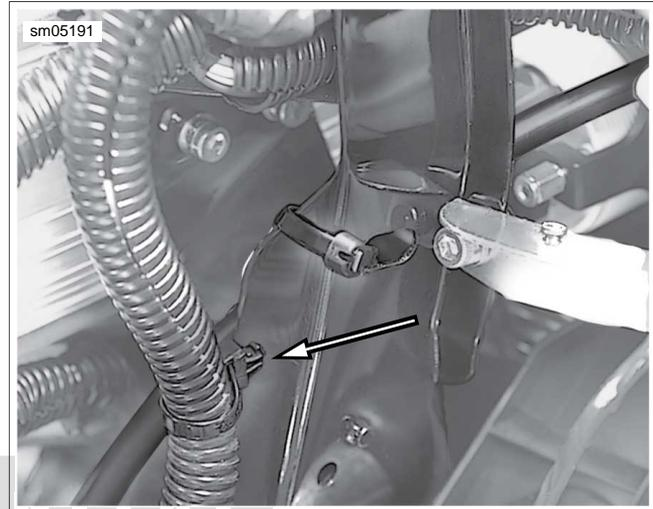

Figure 8-112. Anchor Convoluted Tubing of Headlamp Connector to Fairing Bracket (Left Side)
9. Install anchor on convoluted tubing of headlamp connector [38] into hole at front of left fairing bracket. See Figure 8-112.